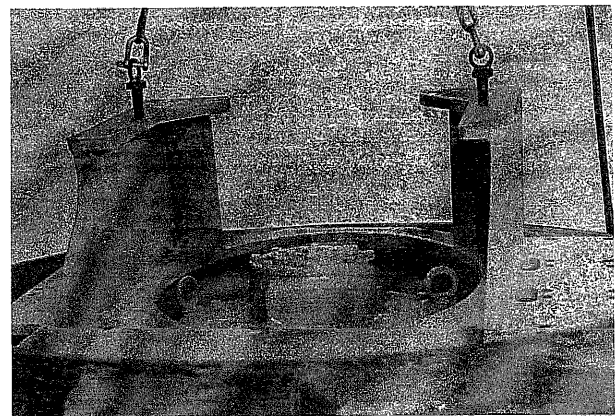

Fig. 99
- (7) Mount propulsion motor to disc (20) and axle housing (18) to rubber isolators (21) (SV91T, SV91D & SV91DP). (Fig. 73, Fig. 99)